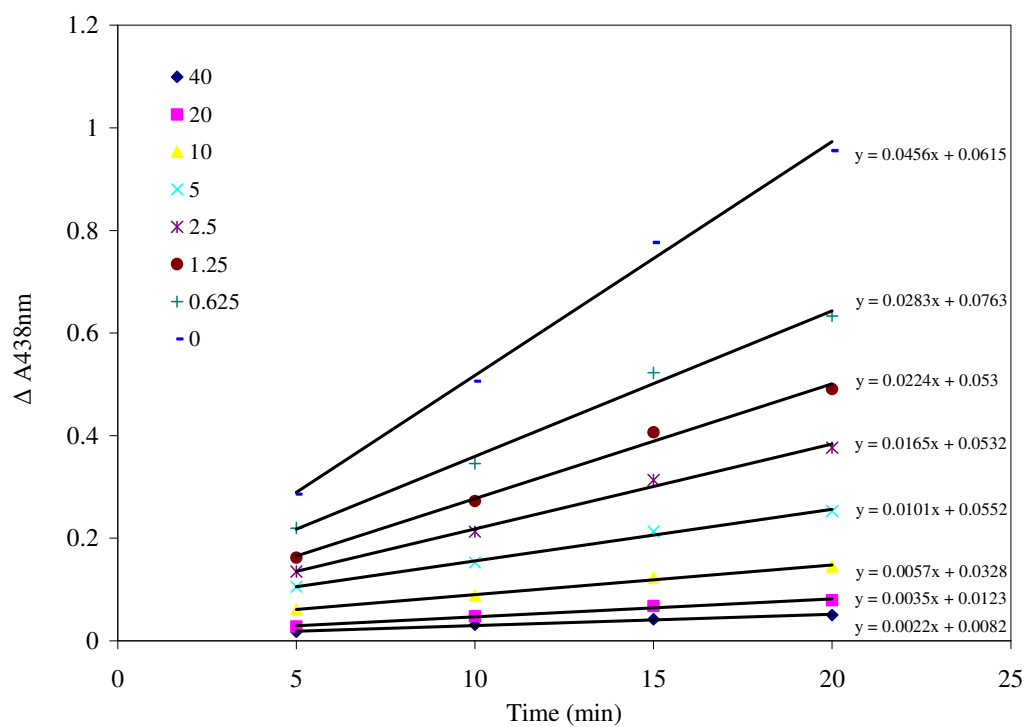
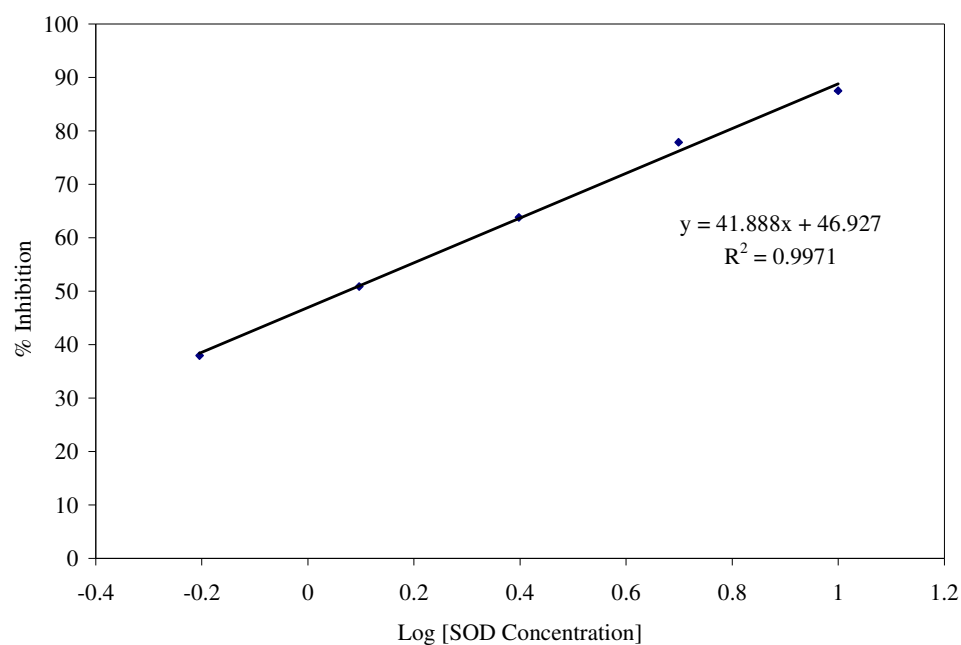

Figure 1. Standard curves of ΔA_{438nm} vs. reaction time for SOD standard solution with different concentrations.
Figure 2. SOD Standard Inhibition Curve of % Inhibition vs. Log [SOD Concentration].
Serially diluted SOD solutions with concentrations ranging from 0.625 to 40 units/ml are measured with the ScienCellTM SOD Assay after different time of reaction, and the resulting standard curves are shown in Figures 1. % Inhibition of reduction reaction can be calculated based on the corresponding $\Delta A_{438nm}/min$ for each SOD concentration. Positive linear relationship between % Inhibition & logarithm of SOD concentration to the base 10 (Log [SOD concentration]) can be observed within the range of 0.625 to 10 units/ml (Figure 2).
2. Based on the ΔA_{438nm} of the SOD standard solutions, plot the standard curve of ΔA_{438nm} vs. reaction time at different SOD concentration (Figure 1). Calculate the $\Delta A_{438nm}/\text{min}$ (i.e. rate of the reduction reaction) of each SOD standard as the slope of the corresponding trend lines shown in Figure 1.
4. Based on the % Inhibition of each SOD standard (Table 1), plot the % Inhibition vs. log [SOD concentration] as the SOD Standard Inhibition Curve (Figure 2). A linear relationship can be obtained within the range of 0.625-10 U/ml. Determine the equation and R² value of the trend line.